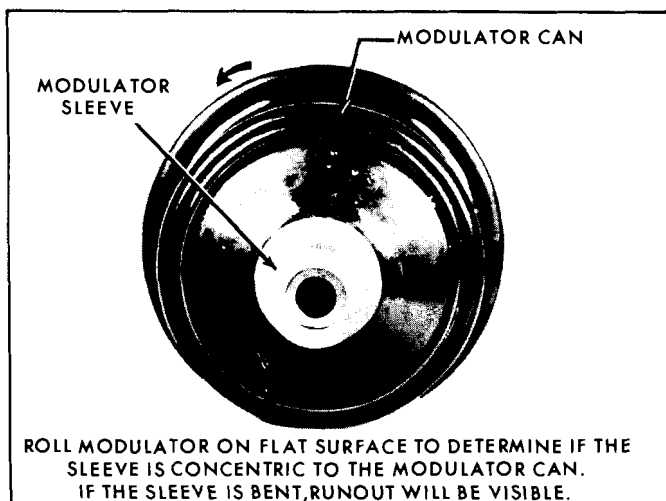

Fig. 7G-135 Checking Concentricity of Sleeve
- a. Roll main body of modulator on a flat surface and observe sleeve for concentricity to body (Fig. 7G-135).
- a. Apply liberal coating of soap bubble solution (available at 5-10 cent store) to vacuum connector pipe seam, crimped upper-to-lower housing seam and to threaded screw seal (Fig. 7G-136).